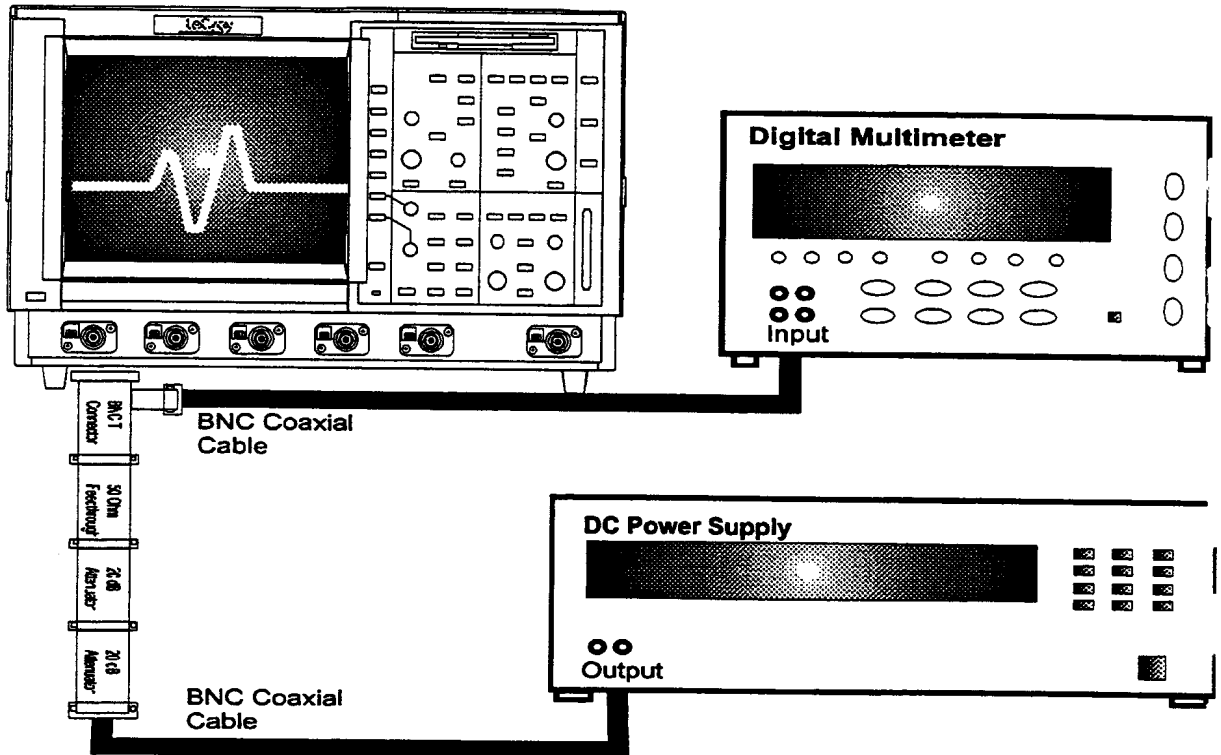

Figure 5-4: DC 1MΩ Accuracy Equipment Setup for 5 mV/div.
- For 5 mV/div., connect the test equipment as shown in Figure 5-4.
- Connect the test equipment as shown in either Figure 5-4 or 5-5 or 5-6.